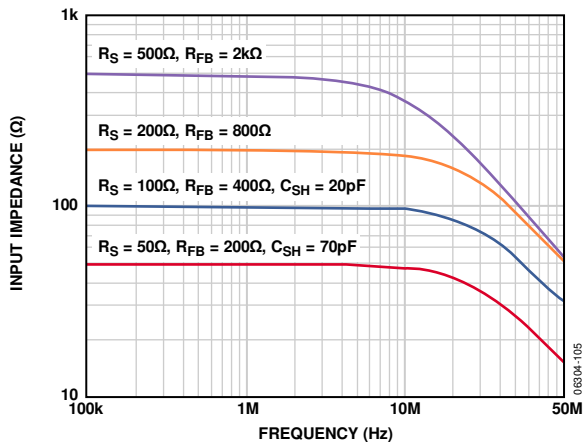

Figure 42. R_{IN} vs. Frequency for Various Values of R_{FB} (Effects of R_{SH} and C_{SH} Are Also Shown)
The bandwidth (BW) of the LNA is about 70 MHz. Ultimately the BW of the LNA limits the accuracy of the synthesized R_{IN} . For $R_{IN} = R_S$ up to about $200\ \Omega$, the best match is between 100 kHz and 10 MHz, where the lower frequency limit is determined by the size of the ac-coupling capacitors, and the upper limit is determined by the LNA BW. Furthermore, the input capacitance and R_S limit the BW at higher frequencies. Figure 42 shows R_{IN} vs. frequency for various values of R_{FB} .
Note that at the lowest value, $50\ \Omega$, in Figure 42, R_{IN} peaks at frequencies greater than 10 MHz. This is due to the BW roll-off of the LNA, as mentioned previously.